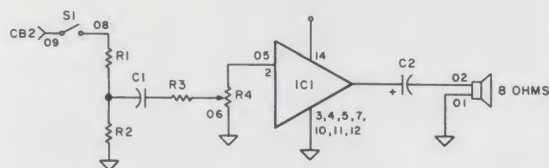

Fig. 1. Sound module circuit.
All programs use the CB2 port to serially shift out 1s and 0s to produce different frequencies. The circuit uses a simple audio amplifier IC1. Fig. 1 shows a schematic of this sound module. Volume is controlled by R4, which should be part of the basic Expander. The entire circuit uses a 3 x 4 inch printed circuit (PC) board. All components are wired as shown in Fig. 1.